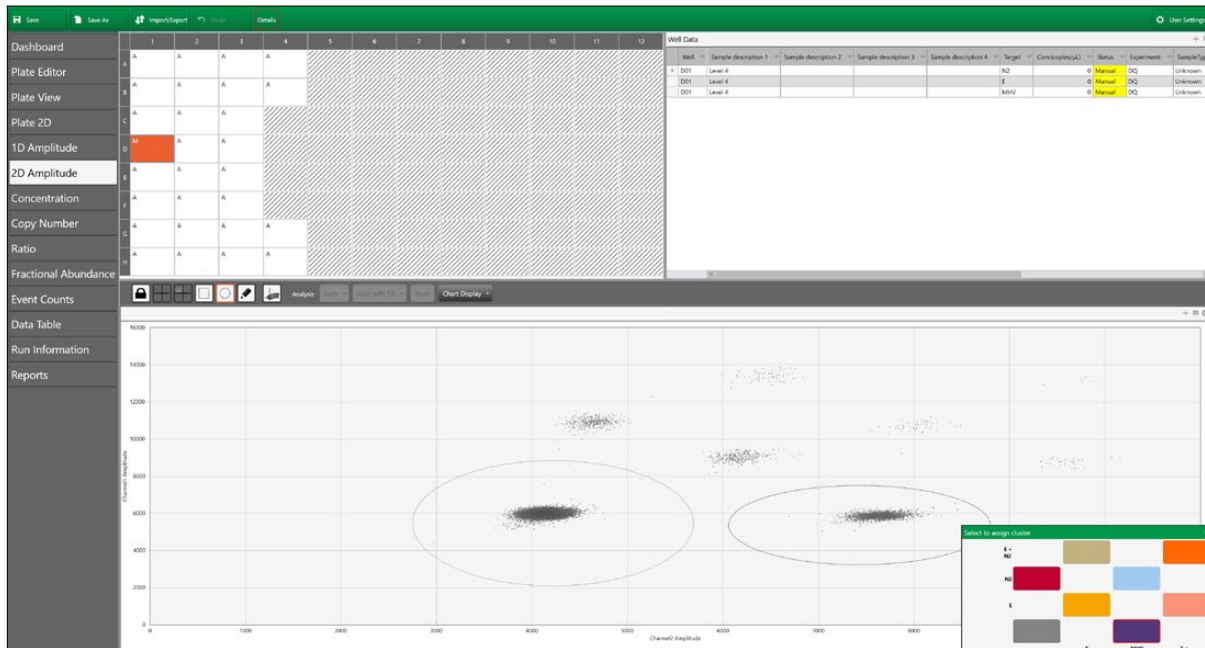

Fig. 13. MHV single-positive cluster.
6. The cluster immediately to the right of the triple-negative cluster corresponds to **MHV** (single-positive, HEX channel) (Figure 13).